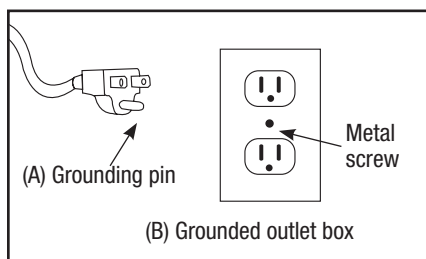

FIGURE 3
14. This tool is intended for use on a circuit that has an outlet that looks like the one illustrated in FIGURE 3(B). The tool has a grounding plug that looks like the plug illustrated in FIGURE 3(A). The green-colored rigid prongs extending from the adapter must be connected to a permanent ground such as a properly grounded outlet box.